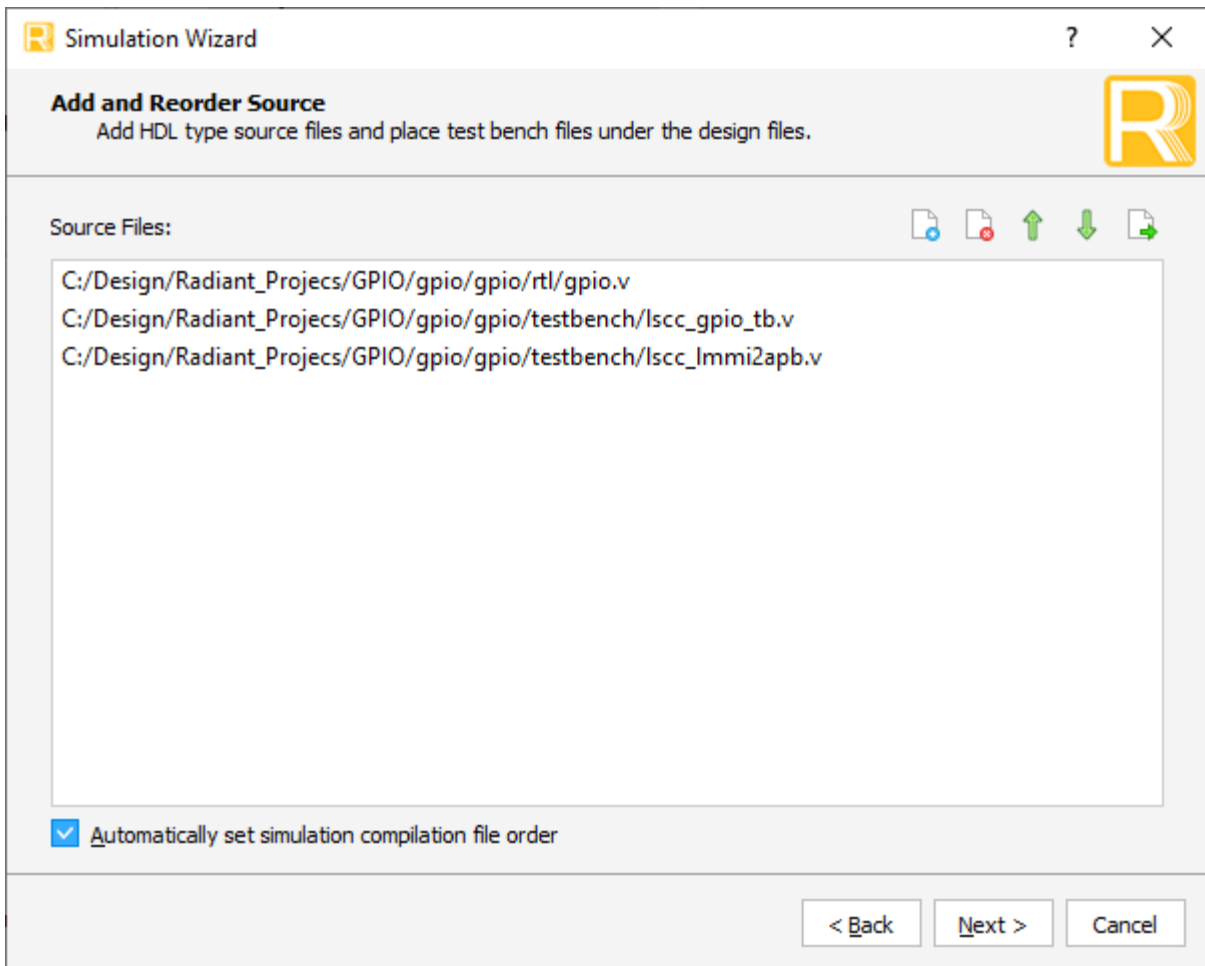

Figure 3.4. Adding and Reordering Source
2. Double-click **Next** to open the **Add and Reorder Source** window as shown in Figure 3.4.